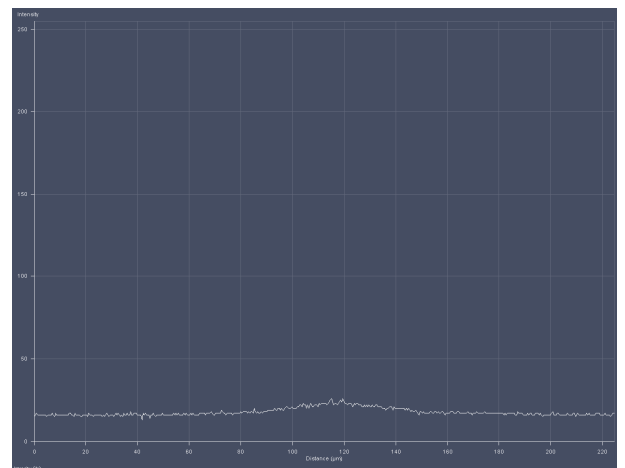

Fig. 9-15 Selection of Line Scan diagram
- The diagram (Fig. 9-15) shows a line with a bump, which is the result of reflected light on the optical axis not focused yet on the lower glass surface. You might adjust the line to lower or higher values by altering the gain or laser power.